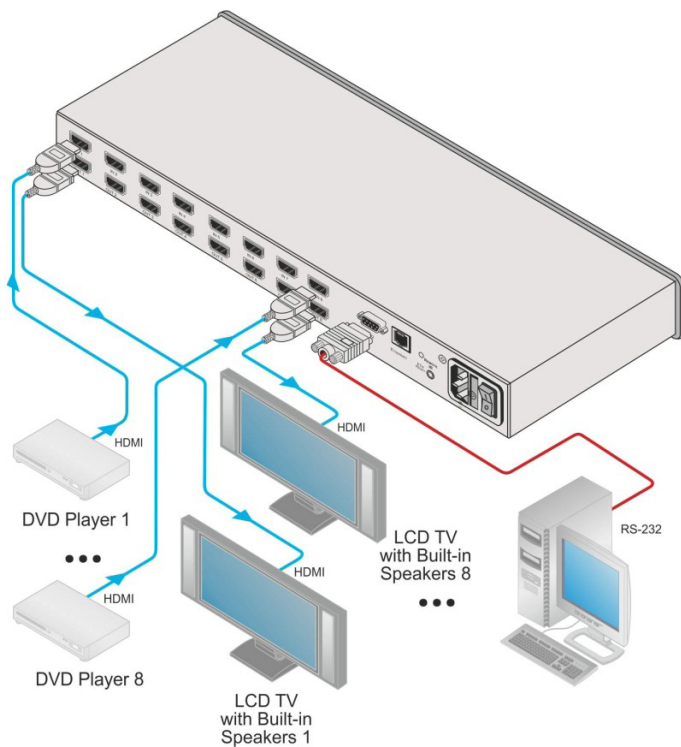

Figure 3: Connecting the VS-88HN 8x8 HDMI Matrix Switcher
To connect the **VS-88HN 8x8 HDMI Matrix Switcher** as illustrated in the example in Figure 3:
4. Connect the device to the mains electricity (not shown in Figure 3).